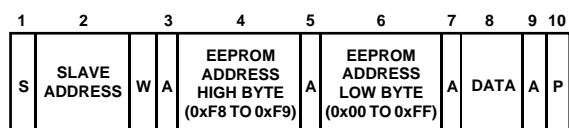

Figure 32. Single Byte Write to EEPROM
- To write a single byte of data to EEPROM. In this case the command byte is the high byte of the EEPROM address from 0xF8 to 0xF9. The first data byte is the low byte of the EEPROM address and the second data byte is the actual data. This is illustrated in Figure 32.